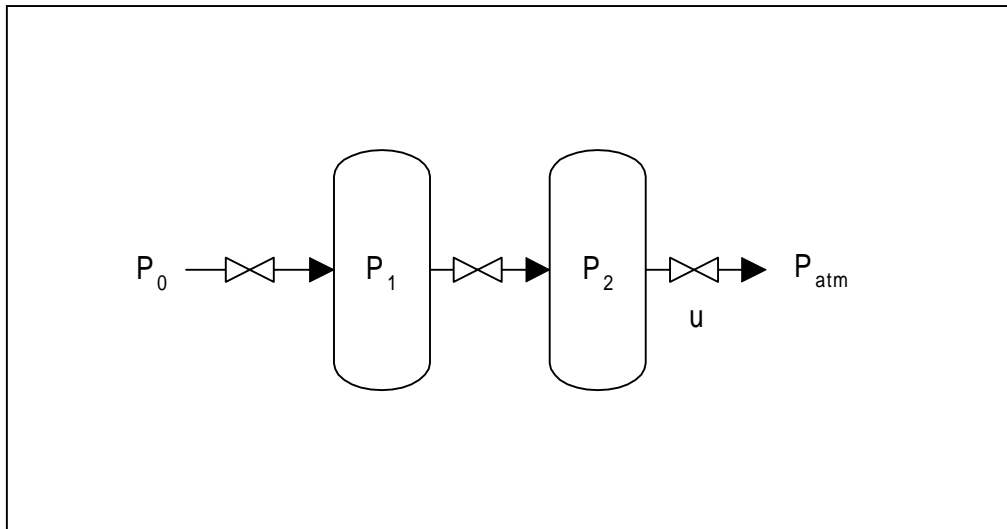

Figure 2.
2. (25 pts) After linearization and letting P denote perturbation variables around the initial steady state, the model for the pressures in the two pressure vessels in series (see Figure 2) are given by